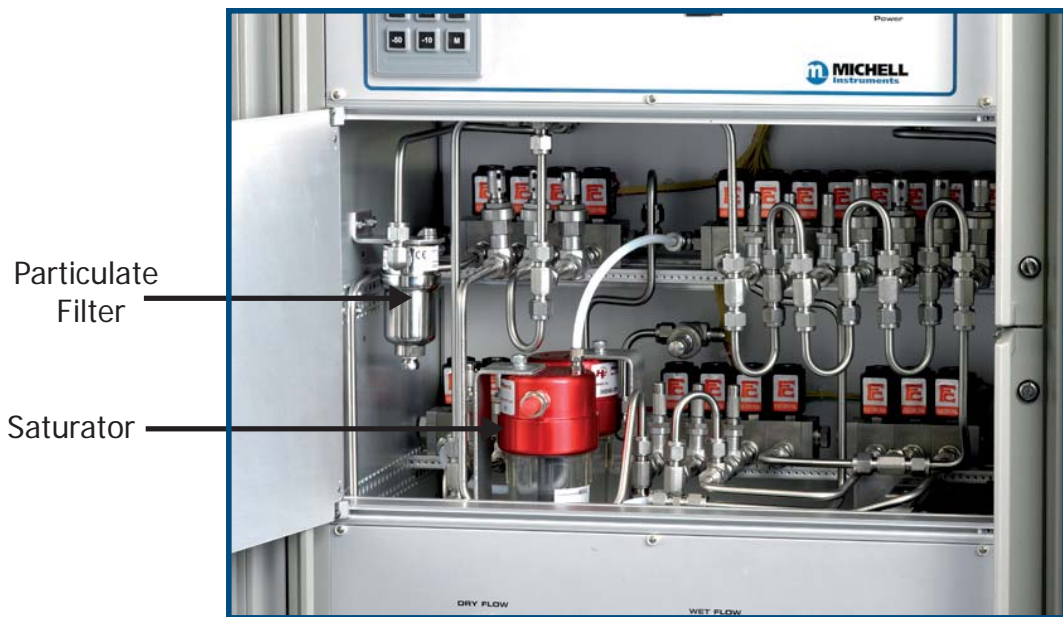

Figure 3 Saturator and Filter Location
1. Before operation, the saturator system must be filled with distilled water. Access to the saturator is through the hinged front panel of the unit (see *Figure 3*).
A particulate filter is included within the generator on the gas inlet line. Access is through the hinged front panel of the unit (see *Figure 3*).